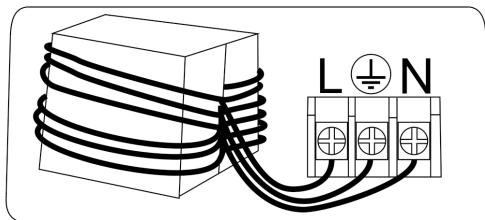

Fig. 5
- If the device is installed with the cable embedded in the wall, first remove the screw (8) (Fig. 2) from the bottom cover of the device (5) and then uninstall the original cable from inside the device. The recessed cable to the wall must be inserted inside the device and connected, turning the ferrite 4 turns, to the cable L (brown), N (blue) and earth (yellow - green) to the terminal according to Fig. 5 Then the bottom cover of the device (5) can be closed.